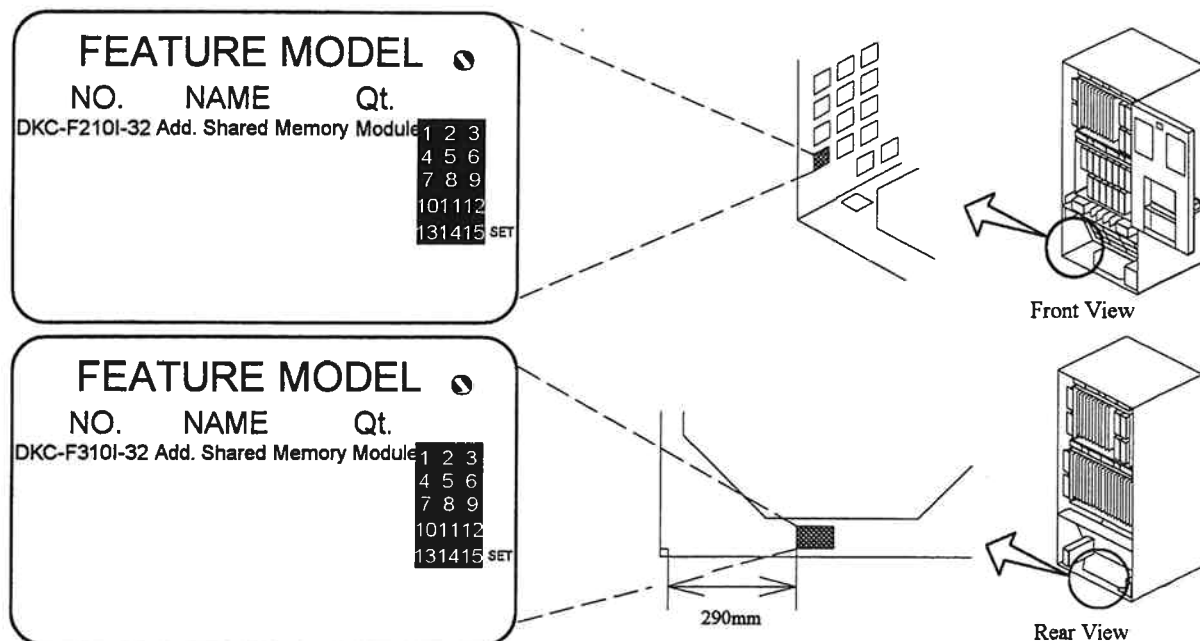

Fig. 3.3.7.3.2-9 Location of the Nameplate
- b. Refer to Fig. 3.3.7.3.2-9 and Table 3.3.7.3.2-9 to paint out unnecessary numbers and wipe off a necessary number painted previously so that the "Qt." marking for the corresponding DKC-F210I-32/DKC-F310I-32 can be seen.